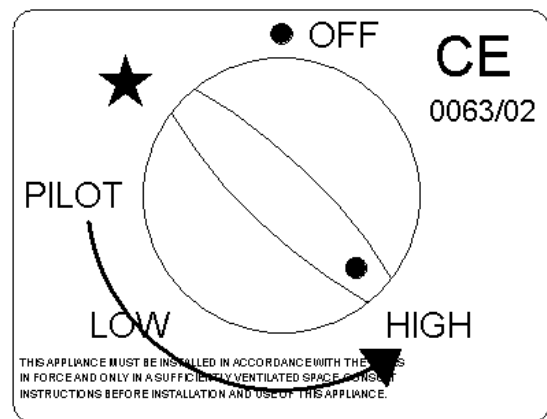

Fig 5c
Step 2. To ignite the main burner, rotate the control knob anti-clockwise to the **HIGH** position (fig 5c)